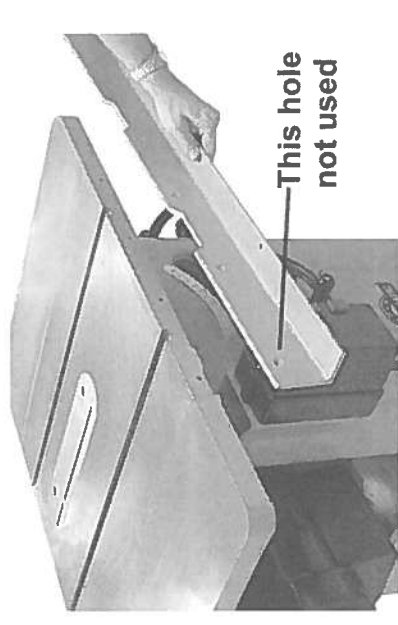

Figure 1
2. Align the holes on the notched side of the *front rail* to the holes in the front edge of the table saw top, as shown in Figure 1. The notches should fall below the miter slots in the table.